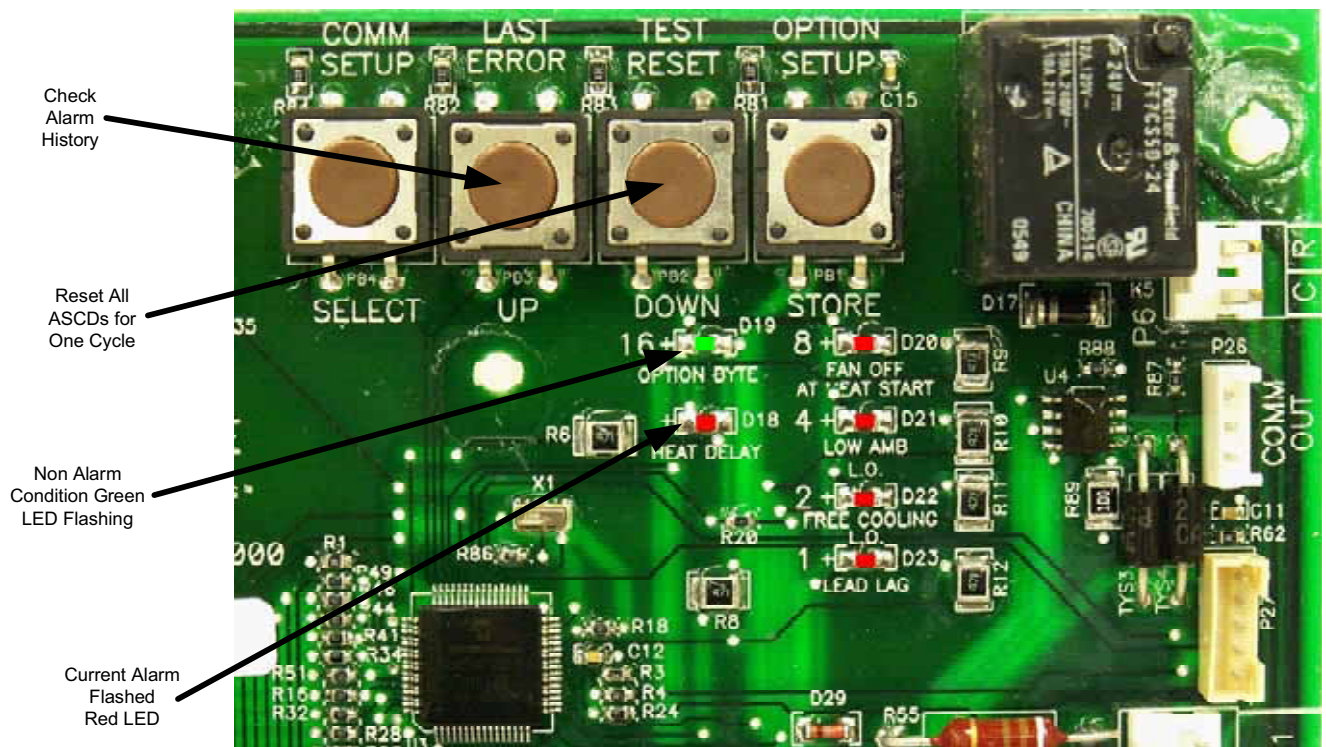

FIGURE 28 - UNIT CONTROL BOARD
Alarm condition codes are flashed on the UCB lower left Red LED, See Figure 28. While the alarm code is being flashed, it will also be shown by the other LEDs: lit continuously while the alarm is being flashed. The total of the continuously lit LEDs equates to the number of flashes, and is shown in the table. Pressing and releasing the LAST ERROR button on the UCB can check the alarm history. The UCB will cycle through the last five (5) alarms, most recent to oldest, separating each alarm flash code by approximately 2 seconds. In all cases, a flashing Green LED will be used to indicate non-alarm condition.